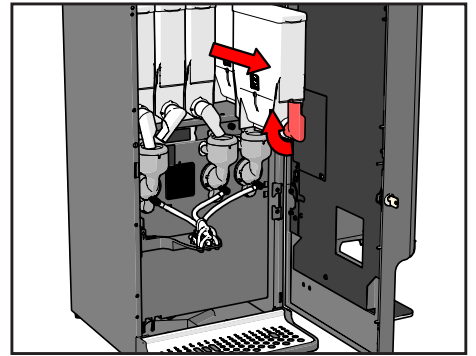

Figure 55.
3. Turn up the spouts of the instant containers and remove the canister from the machine (see Figure 55).